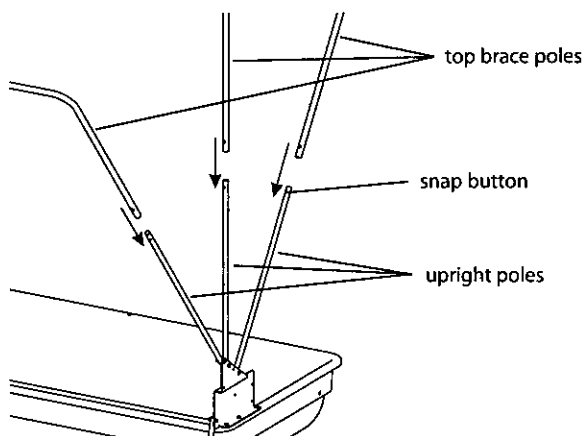

Figure 7
3. Take the (3) hinge upright poles from each hinge assembly and insert them into the (3) assembled top cross brace poles (large loop poles). Push the snap buttons inward and allow cross brace poles to go over hinge poles and slide them to their shortest height (transport mode). **SEE FIGURE 7.**